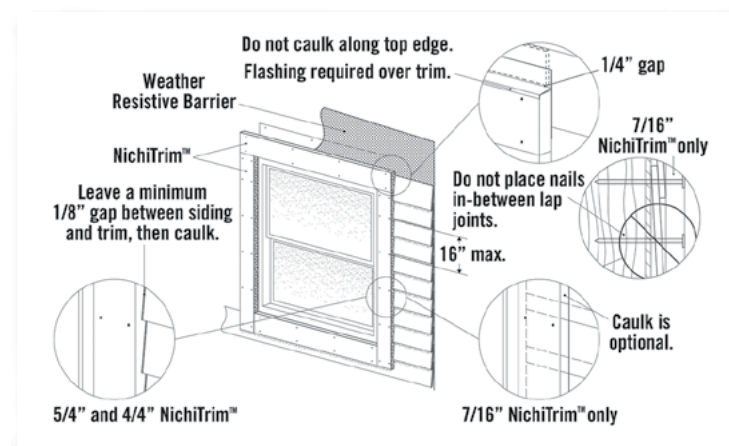

Fig. 15.2
Trimming Windows, Doors & Openings (Fig. 15.2)
- Install door and window trim in the "cap-over" method. Ensure the top trim board spans over the top of the vertical or side trim pieces. (Fig. 15.2)